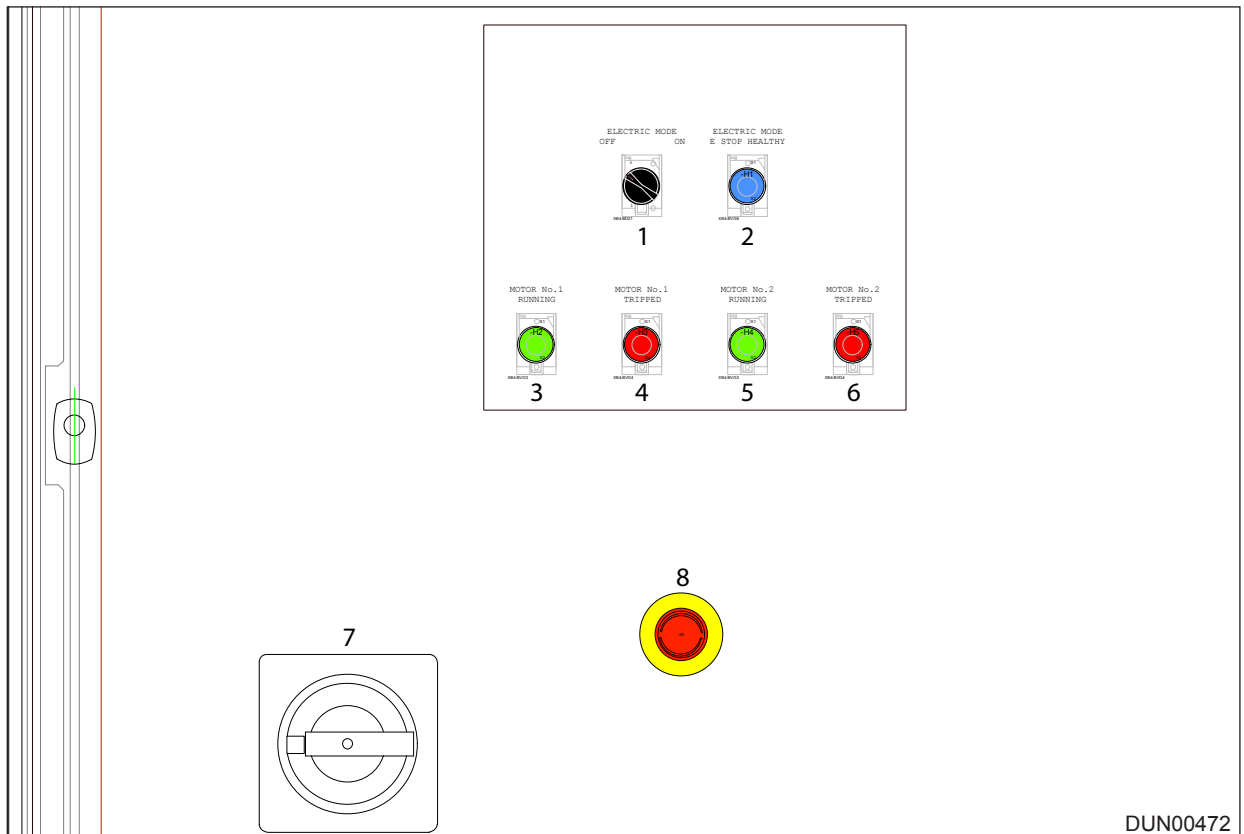

Figure 7.18 - Tier 4 Dual Power Control Panel
1. Ensure the Electric mode switch (Item 1) is OFF, Reference: Figure 7.18.
(4) Electric Mode Operation